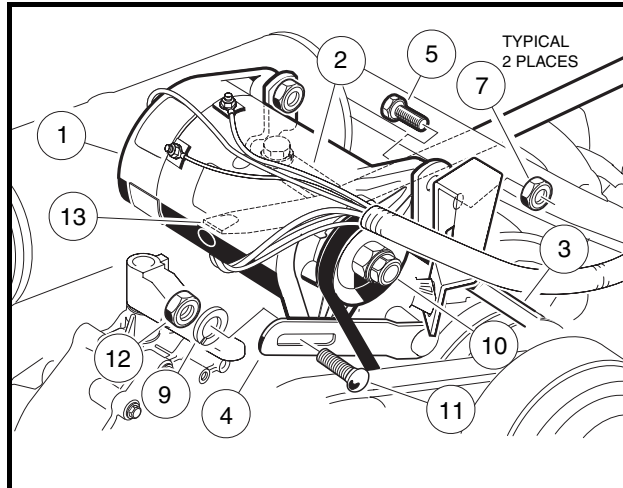

Figure 12-13 Starter/Generator Installation
2. Install two 3/8-inch hex-head pivot bolts (5) into the mounting bracket with the heads of the bolts facing toward the driver-side of the vehicle. Position the starter/generator in the mounting bracket so that the bolts will go through the starter/generator before going through the bracket. Install a lock nut (7) onto each bolt. Tighten to finger tight (**Figure 12-13, Page 12-11**).
3. Install the adjustment bolt (11) through the adjusting bracket (4) and then through the starter/generator. Install a lock washer (9) and 5/16-inch nut (12) onto the end of the adjustment bolt (11). Tighten to finger tight (**Figure 12-13, Page 12-11**).
4. Install the belt (3), then tighten the mounting bolts. **See Belt Tension Adjustment on page 12-11.**
4. Make sure the two pivot bolts (5) on the mounting bracket are finger tight. The carriage bolt (11) and hex nut (12) are to be finger tight also (**Figure 12-13, Page 12-11**).
5. Push the starter/generator down so it is at the lowest point of its adjustment travel. With the starter/generator belt in place around the drive clutch pulley, install the starter/generator belt (3) around the pulley (10) on the end of the starter/generator.
6. Position a pry bar (13) between the top of the starter/generator mounting bracket (2) and the underside of the starter/generator by passing the pry bar under the exhaust header. **See following NOTE.**
8. While maintaining the tension, tighten the adjustment nut (12) to 12 ft-lb (16.3 N·m). Tighten the two pivot bolts (5) and hex nuts (7) to 23 ft-lb (31.2 N·m) (**Figure 12-13, Page 12-11**). **See following CAUTION.**